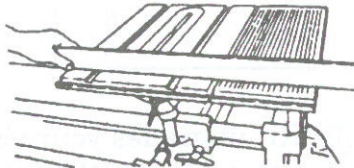
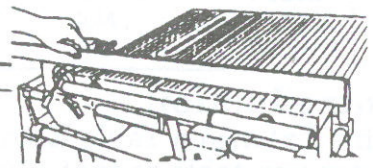

Fig.8
Fig.9
9. Hold a straightedge on the infeed top surface of both the worktable and the extension table. Fig.8 shows Model 500 and Fig.9 shows Model 510.